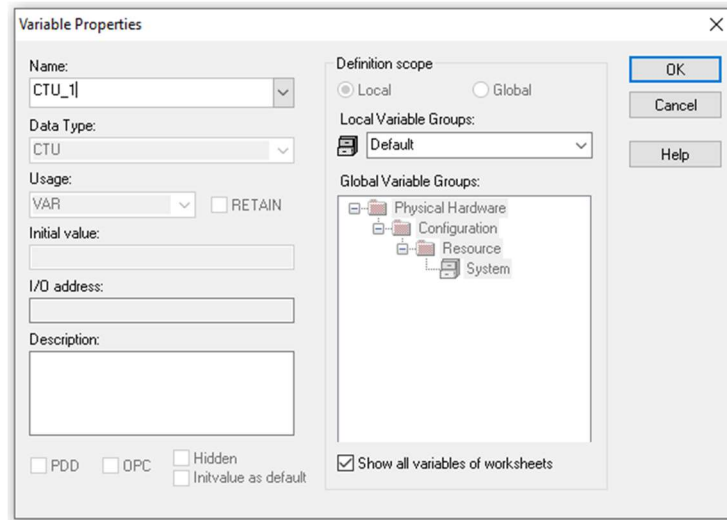

Figure 14: Counter Up Variable Properties
- The window in Figure 14 should pop up but we can ignore it and just hit OK.